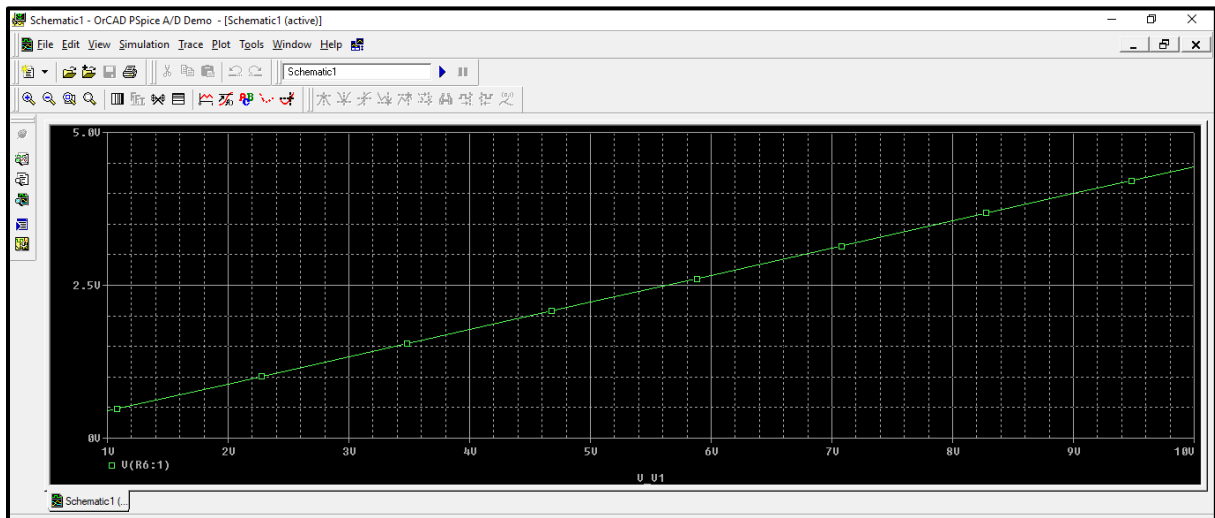

Figure.19
- When you place the marker, the output simulation window will be as shown in figure.19. this is a curve of the voltage at the node you placed the marker **with respect to ground**.